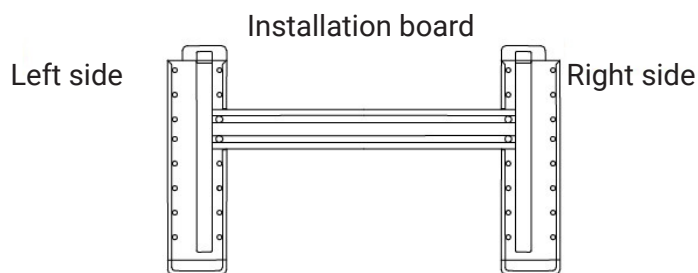

Fig.4
- Drill holes as Fig. 4 shows. The hole, 80mm in diameter, should slightly slide down outwards.